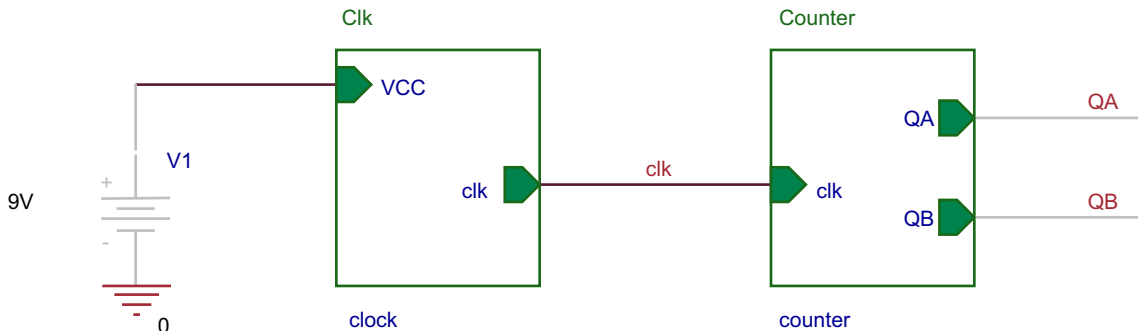

FIGURE 22.12
- Still in the **Test_Clock** Project Manager, open the **Digital Counter** schematic page as shown in **Figure 22.12**.